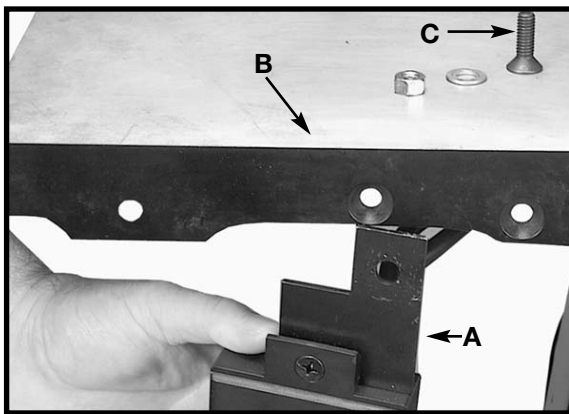

Fig. 37
1. Assemble switch (A) Fig. 37, behind the lip of extension wing (B) insert 5/16-18 x 1" flat head screw (C), then assemble flat washer, and locknut. **Tighten securely.**